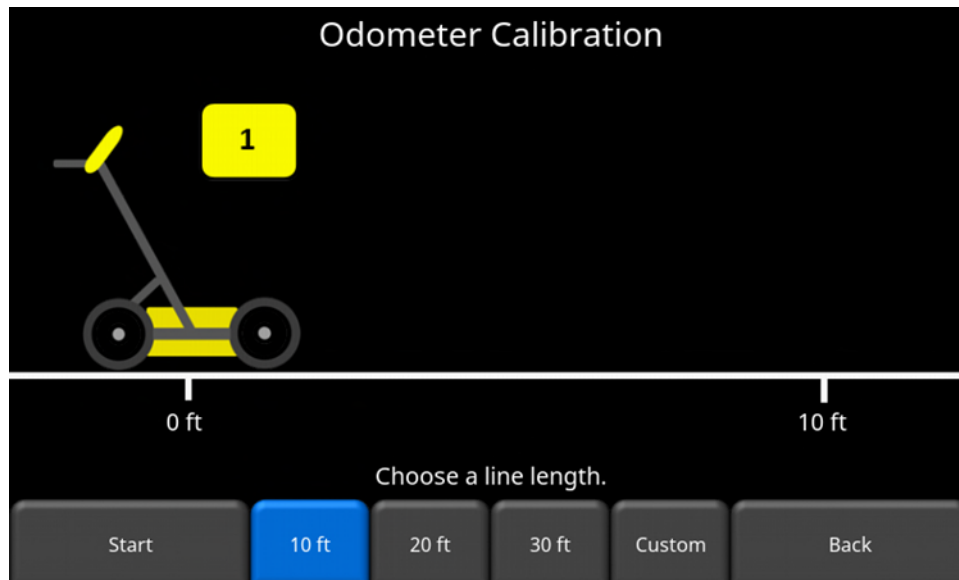

Figure 4-19: Odometer Calibration – select a distance and then press Start
- **Odometer Calibration** - This option actually calibrates the odometer (Figure 4-19). Choose a set distance from the screen or select Custom. Then press **Start** and move the system that exact distance, using a measuring tape or other known distance indicator. Press **Finish** when you have travelled that distance